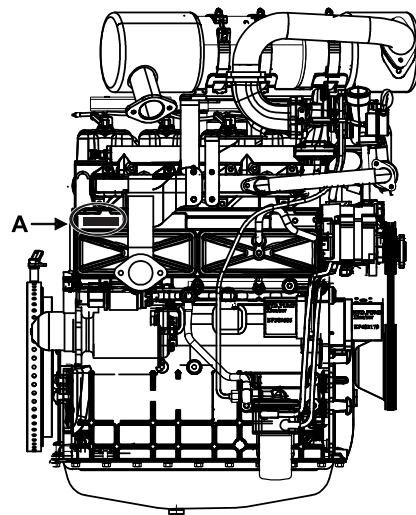

Fig.1-2
The engine serial number is stamped on the cylinder block as shown in the illustration (A) Fig. 1-2.